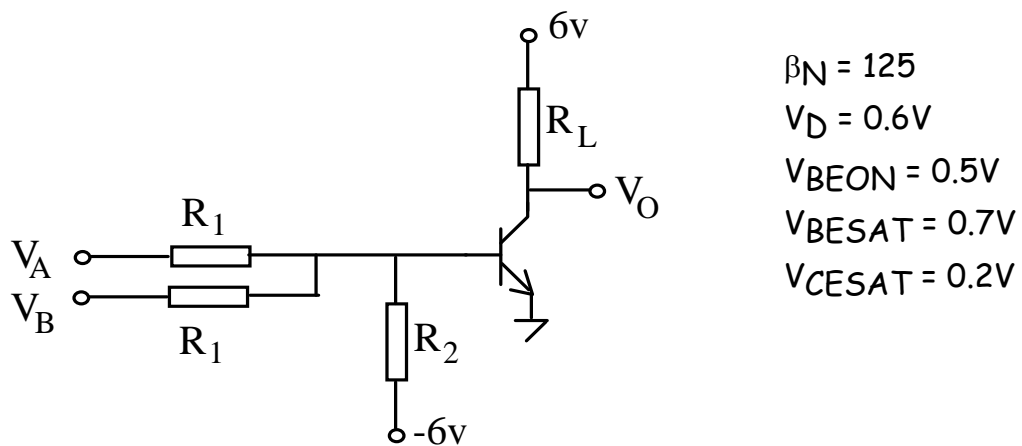

Figure 2 RTL NOR Gate.
Use the following procedure to design the RTL NOR gate in Figure 2:
3.1 Refer to Figure 2 and design a two input positive logic RTL NOR gate due to the following specifications (choose the resistor values from the component list given at the end of preliminary work):